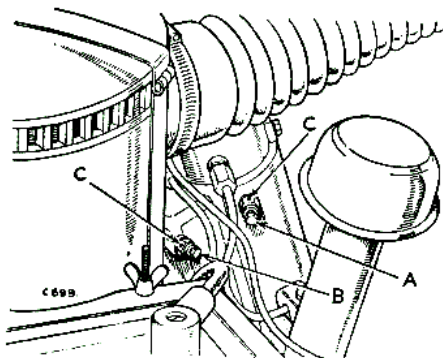

Fig. M-25—Priming the fuel system.
8. Release air vent screw (A) on distributor pump. See Fig. M-25.